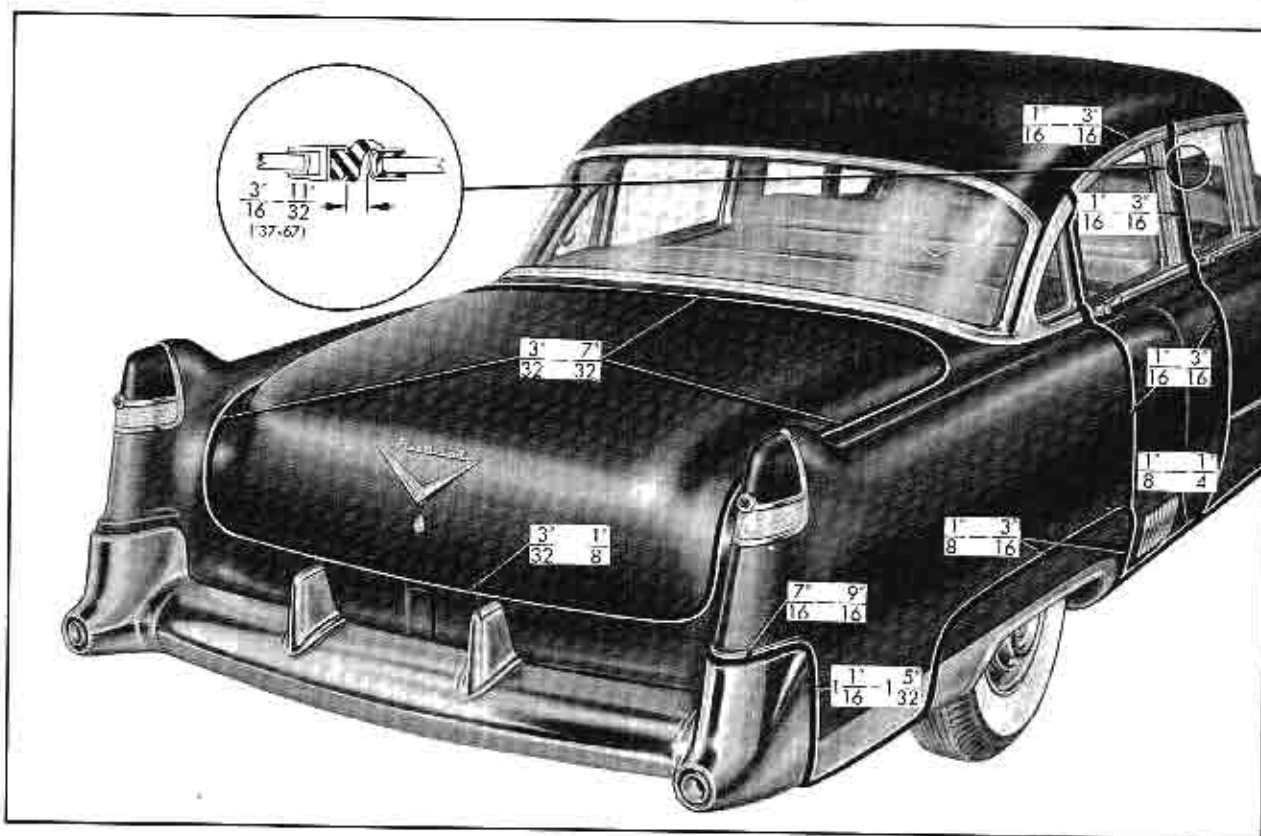

Fig. 3-19 Body Sheet Metal Clearances-Rear
3. With helper, lift door into position. Install bolts loosely; then align hinge straps within scribe marks on pillar and tighten bolts. Check door for alignment. Fig. 3-19.
5. Tighten attaching bolts and check tolerances shown in Fig. 3-19.